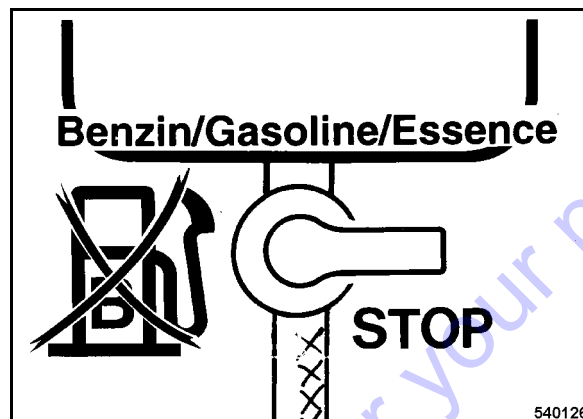

Fig. 24
- Set the fuel valve (Fig. 24) to "STOP" position (closed).